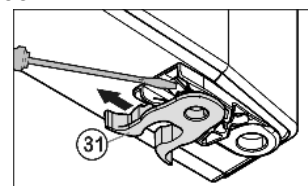

Fig. 7
- Transfer the spring clamp Fig. 7 (31). Depress the latch nose and pull the spring clamp off over it.